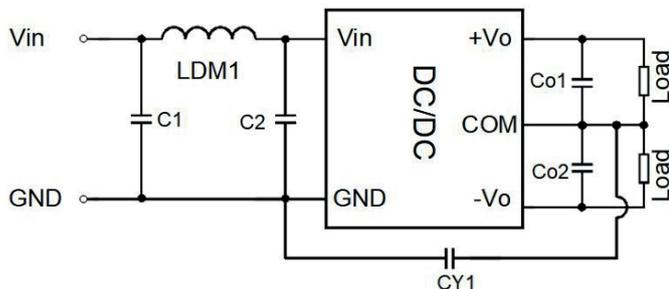

Figure 4
2. EMC typical recommended circuit see figure 4